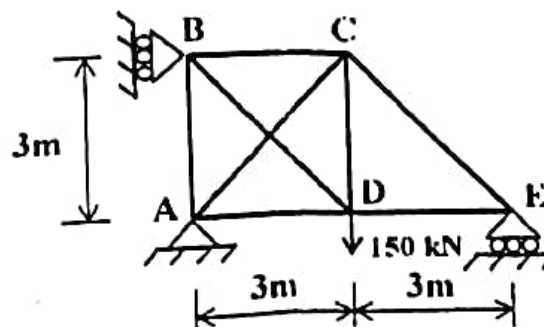

Fig. 10
Please analyze the plane truss shown in Fig. 10 by method of your choice. Axial rigidity of all the members is same. (7)